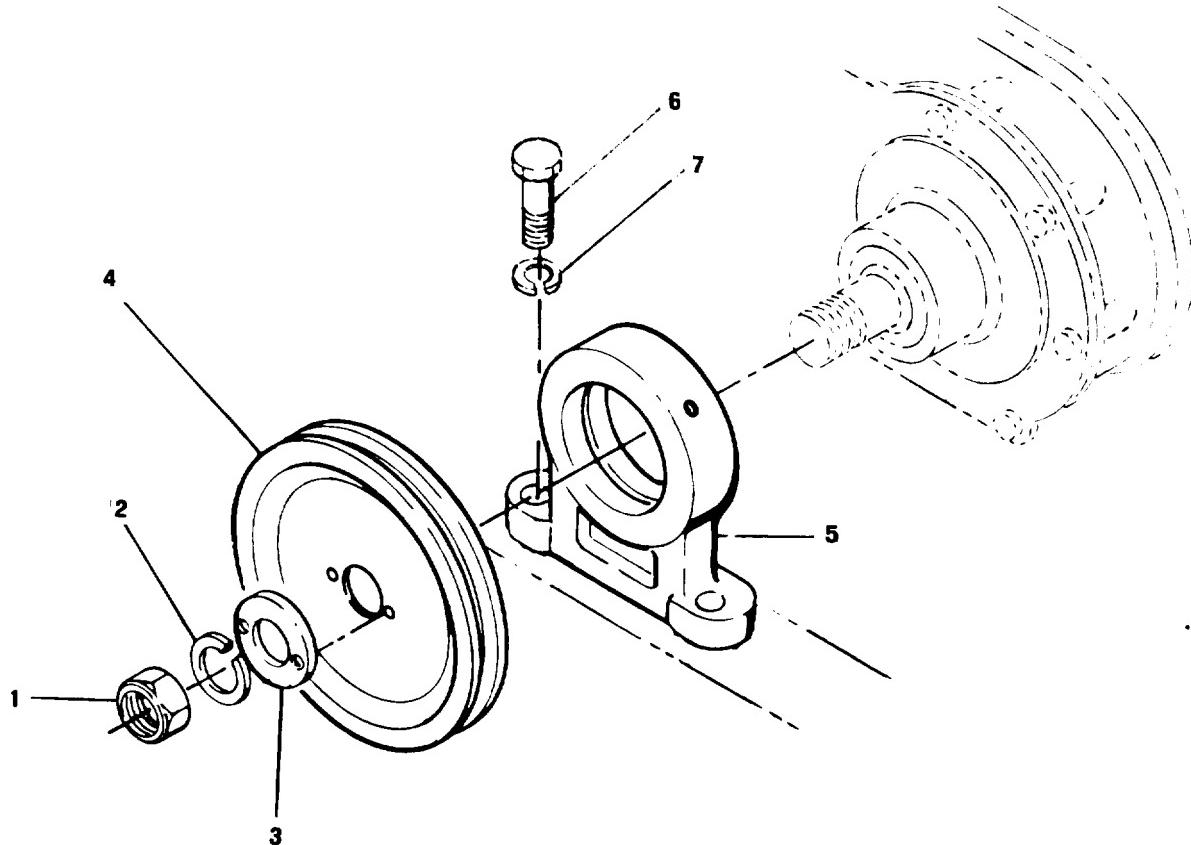

Figure 3-41. Engine Front Support, Removal and Installation
- (1) Remove nut (1, figure 3-41), lockwasher (2), ring (3), and crankshaft (4).
- (2) Remove front engine support from crankshaft by removing bolt and lockwasher.
- (1) Install lockwasher (7, figure 3-41), bolt (6), to crankshaft to install engine front support (5)
- (2) Install crankshaft (4), ring (3), lockwaser (2) and nut (1).